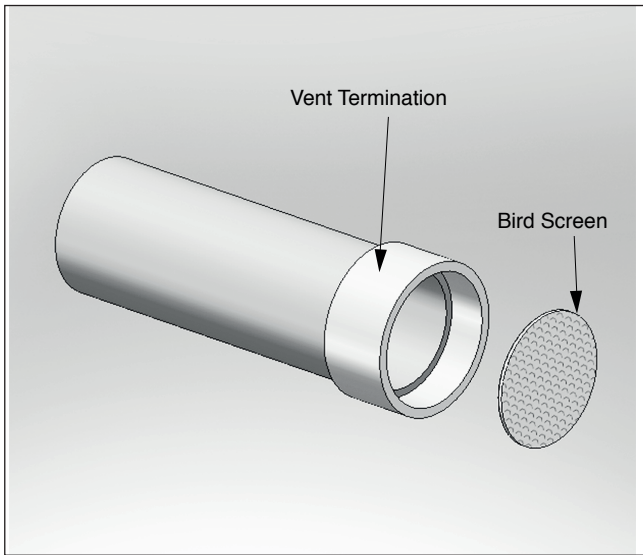
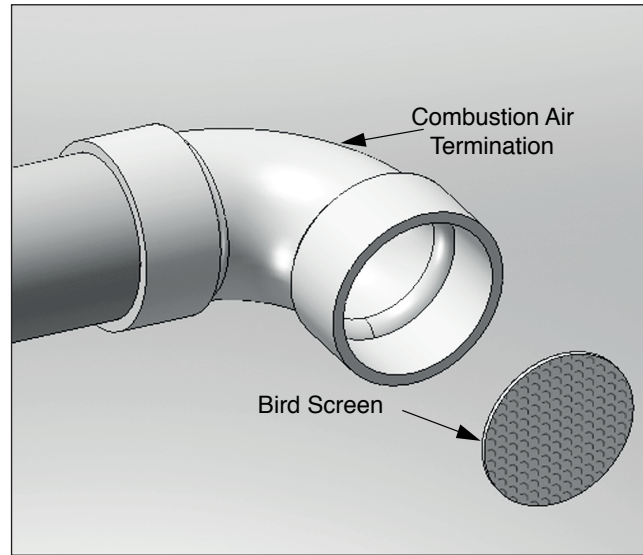

Fig. 9 - Sidewall Vent Bird Screen Installation
Fig. 10 - Sidewall Combustion Air Bird Screen Installation
1. The vent and combustion air terminations must include a factory supplied "bird screen" installed as shown in *Fig. 9* and *Fig. 10 on page 18*.
1. The vent and combustion air terminations must include a factory supplied "bird screen" installed as shown in *Fig. 3 on page 14* & *Fig. 10 on page 18*.